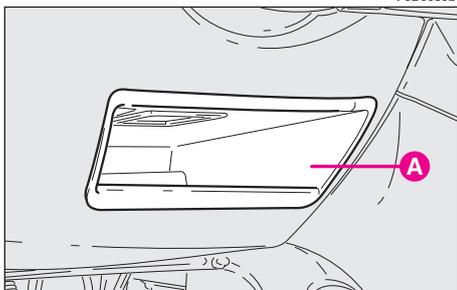

fig. 124
– open document compartment **A**-fig. 124 under the steering wheel;